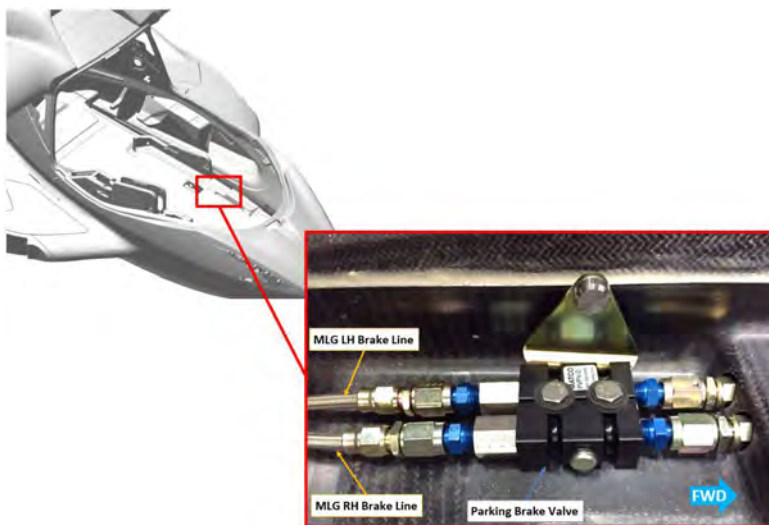

FIGURE 14-14
16. Connect the brake line B-nut to the parking brake valve, then use a 7/16 wrench to hold the AN816-3D fitting on the forward port of the parking brake valve, and a 1/2 wrench to torque the B-nut to 30-40 in-lb_f (see Figure 14-14).